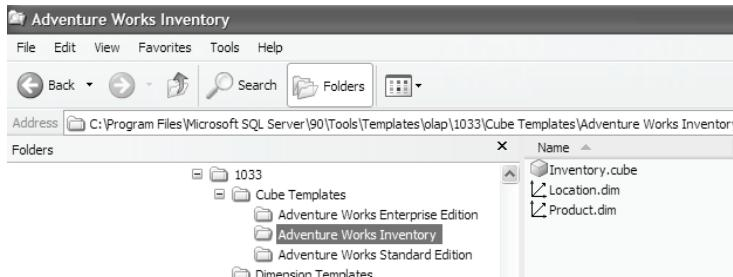

Figure 6.5 To create a cube template, copy the dimension definition files and the cube definition file to the Cube Templates folder.
- Deploy the cube (*Inventory.cube file*) and dimension definition files (*Product.dim* and *Location.dim*) to the Adventure Works Inventory folder (Figure 6.5). At this point, the cube definition template is ready and you can use it as a basis for implementing the Inventory UDM.